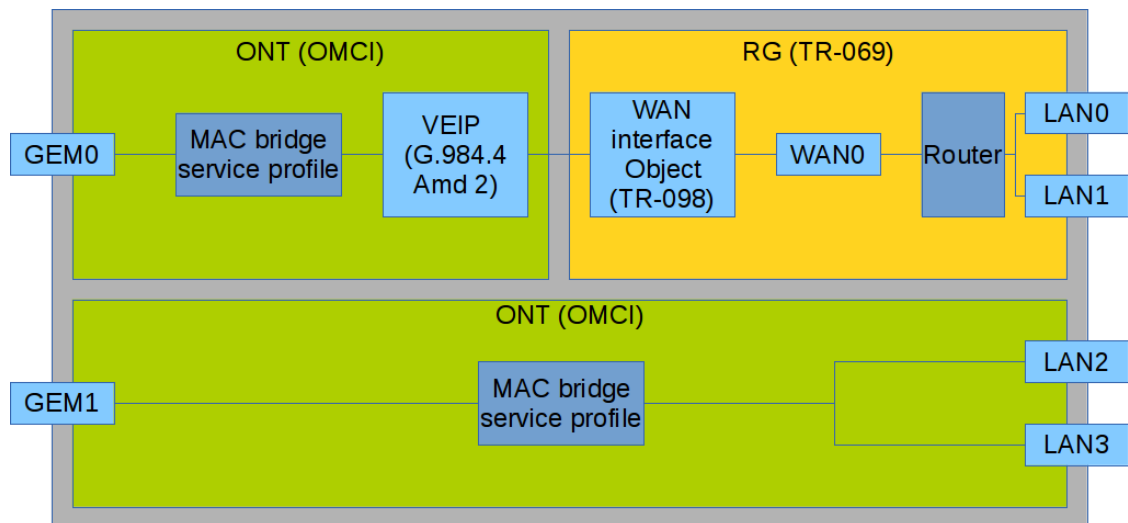

Fig. 22.2. Services Configuration in ONT and RG Domains
Fig. 22.2 shows two services (each with a corresponding GEM port on the ONT side), with one of them being **routed** and using both OMCI and RG management domains, and another one being **bridged** and using only OMCI for configuration. Terminal configuration includes configuration of bridge interfaces (green areas in the figure) and distribution of LAN ports between management domains.
Consider an example of ONT configuration which simultaneously uses both management domains. Port numbers and internal structure are shown in Fig. 22.2.
Step 8. Configure a **ports** profile. According to Fig. 22.2, we need to associate the first two LAN ports with an RG management domain, with another two being associated with an OMCI domain and bound to bridge 1.